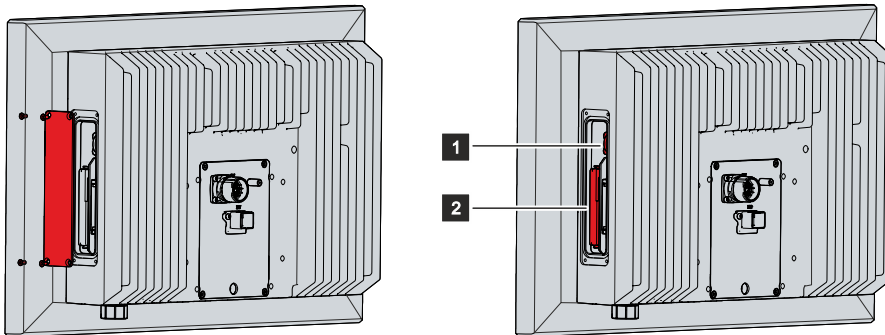

Fig. 41: Access to battery and storage medium
2. Insert the new battery into the PC by hand. Pay attention to the correct polarity. The negative pole of the battery must face the display (see Fig. 41).